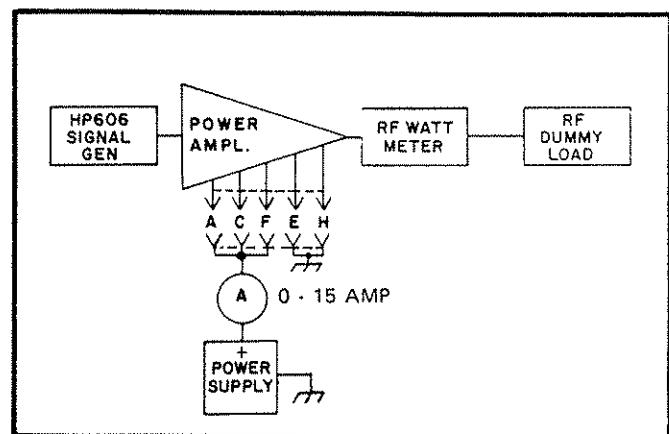

Figure 5.2 Power Amplifier Test Setup
- i. To remove filter compartment cover, remove all 12 screws holding it to the filter chassis. Figure 5.2 shows the Filter module with cover removed.
5.10.3.2 For servicing the power amplifier, it is desirable to use an external power source capable of 28VDC at 12 amperes, continuously variable from 0 to 28 VDC. If such a power source is not available, the transmitter power supply can be used. A typical test set-up is shown in Figure 5.2.
5.10.3.7 When transistor replacement is complete, test the power amplifier per test setup shown in figure 5.2. Apply D.C. power and slowly increase signal generator drive until 100 watts is shown on the wattmeter. The ammeter should indicate approximately 8.5 amperes. Allow the amplifier output to remain at 100 watts for one or two minutes. Remove the signal drive. The ammeter should drop to 1 ampere or slightly greater. If the current drops to 2 amperes or higher and slowly decays toward the 1 ampere level, this means that one or both output transistors has not been properly seated to the heat sink. They should be removed, examined for foreign particles and replaced carefully. Repeat the above test to insure proper installation.